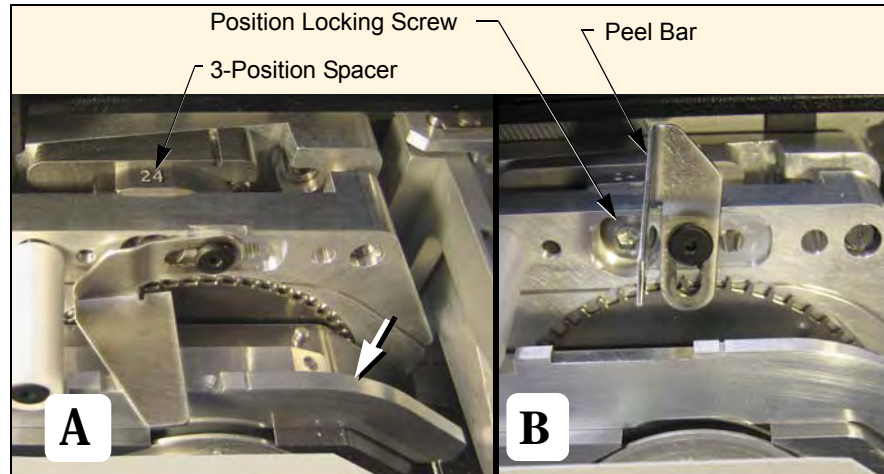

Figure 3-11—The Peel Bar on the GTP T-I Module is down [A] and up [B]. The Front Track (arrow) is also adjustable.
1. Loosen the Peel Bar Screw, and rotate the Peel Bar 90° out of the way. Then retighten the screw. See Figure 3-11 below.
2. Loosen the Position Locking Screw (Figure 3-11) using a 4 mm Hex Key and then rotate the 3-Position Spacer with your finger until you read 16, 24 or 32, corresponding to your device tape width. Retighten the screw.
3. Lift up and move the magnetic Front Track to the position that fits your tape width. Refer to Figure 3-11.